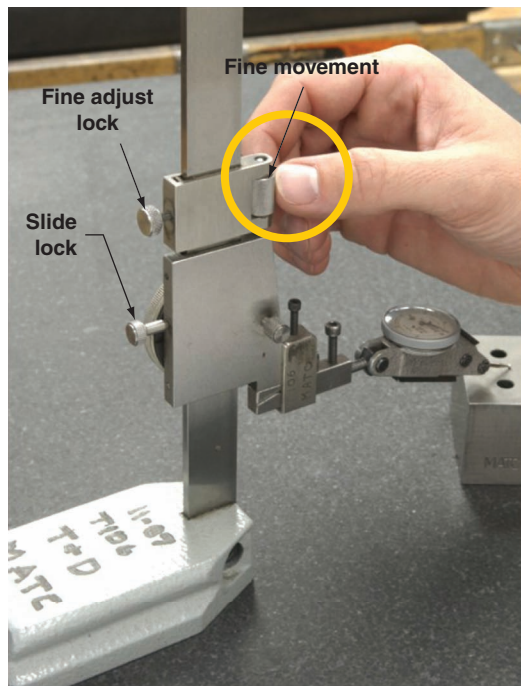

Figure 6-55 The fine movement screw helps with final adjustment of the slide.
1. *Fine movement screw.* It consists of a slide with a lock and a travel screw attached to the vernier slide (Fig. 6-55).